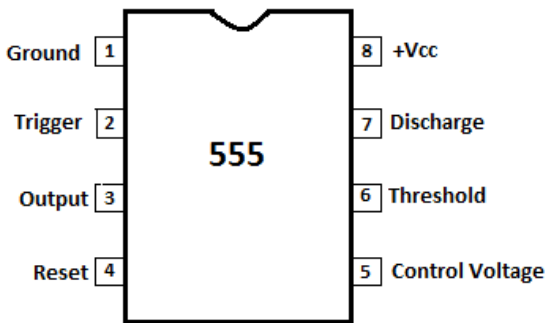

Figure 3: NE555 Timer Pinout Diagram
2. Refer to Figure 3, Connect: